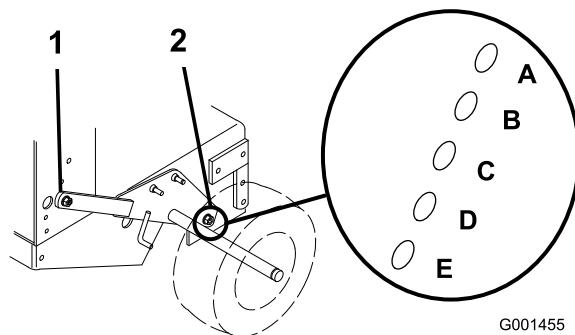

Figure 18
3. Loosen, but do not remove, the 2 axle pivot bolts and the 2 axle adjustment bolts (Figure 18).
4. Place a jack under the rear center of the engine frame. Raise the back end of the engine frame up enough to remove the front 2 axle adjustment bolts (Figure 18).
5. Raise or lower the engine frame with the jack so that you can install the front 2 axle adjustment bolts in the desired hole location (Figure 18).